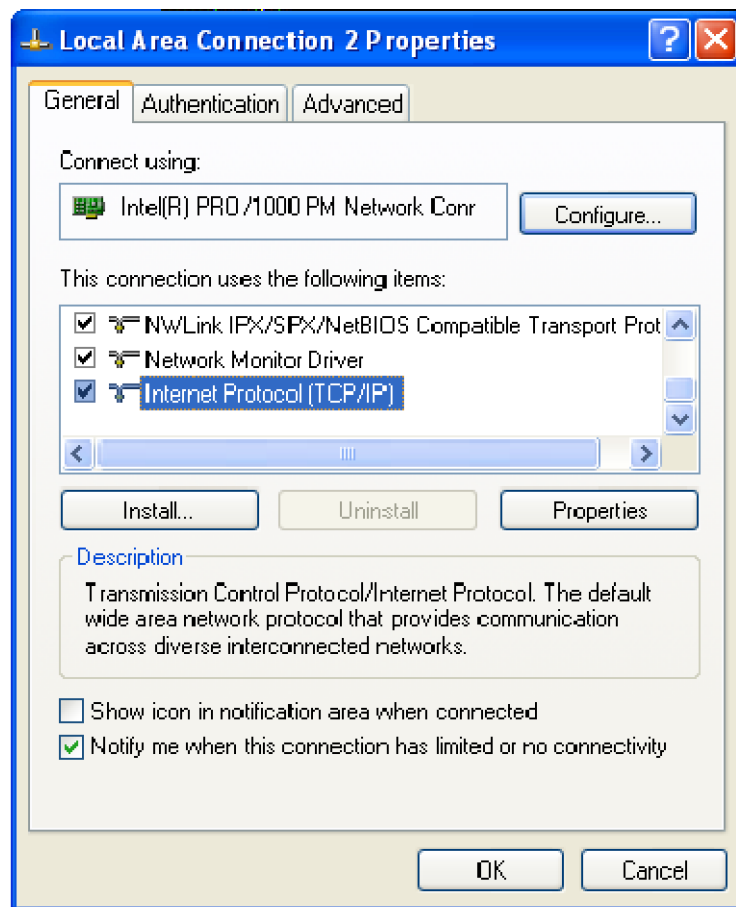

Figure 8: LAN Connection dialog box
2. Right-click the Local Area Connection icon that corresponds to your local LAN card and select **Properties** from the menu. The Properties dialog box appears. (See Figure 8.)